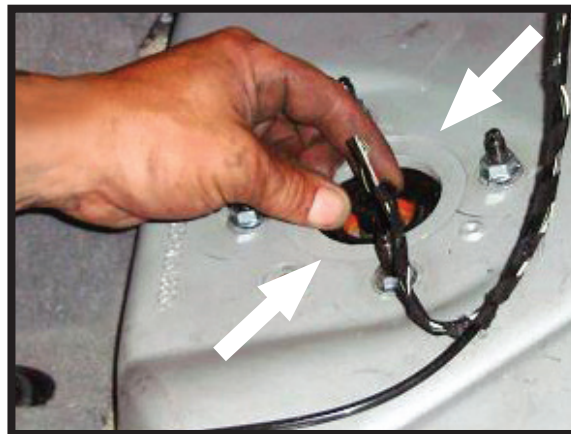

FIGURE 15
4. DISCONNECT THE ELECTRICAL CONNECTOR FROM THE TOP OF THE AIR STRUT (PUSH ON THE SIDES OF THE CONNECTOR TO RELEASE). (FIGURE 15)